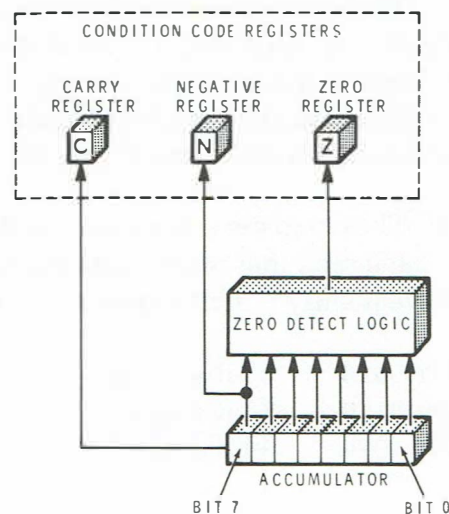

Figure 5-9
To keep track of these conditions, most microprocessors have a group of single bit registers called condition code registers. Three of these registers are shown in Figure 5-9. They are the Negative (N) Register, the Zero (Z) Register, and the Carry (C) Register.